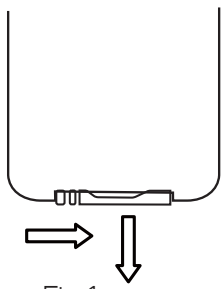

Fig.1
1. Press and slide out the battery door as shown in Fig.1.